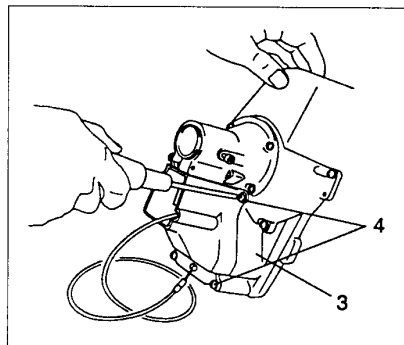

Fig. 3-8
2. Remove four screws (4), which are retaining fan case cover (3). (Fig. 3-8)